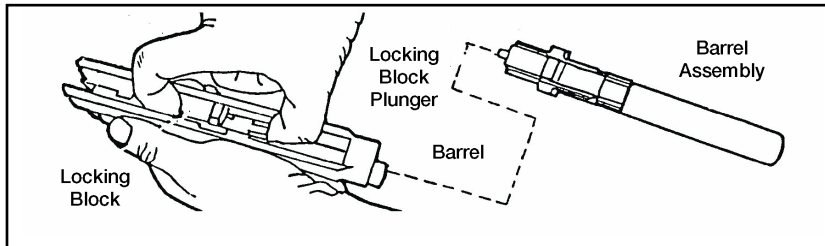

Figure 071-004-0001-3. Removal of the locking block and barrel assembly
i. Disassemble the magazine (figure 071-004-0001-4).